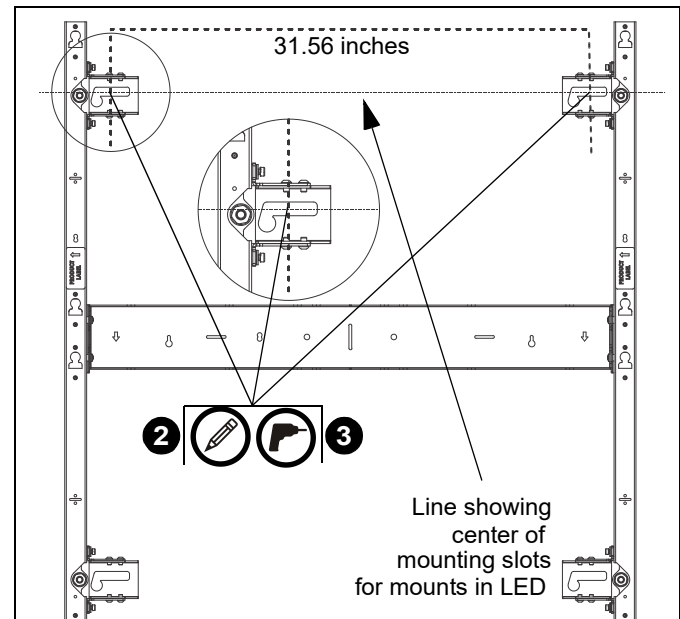
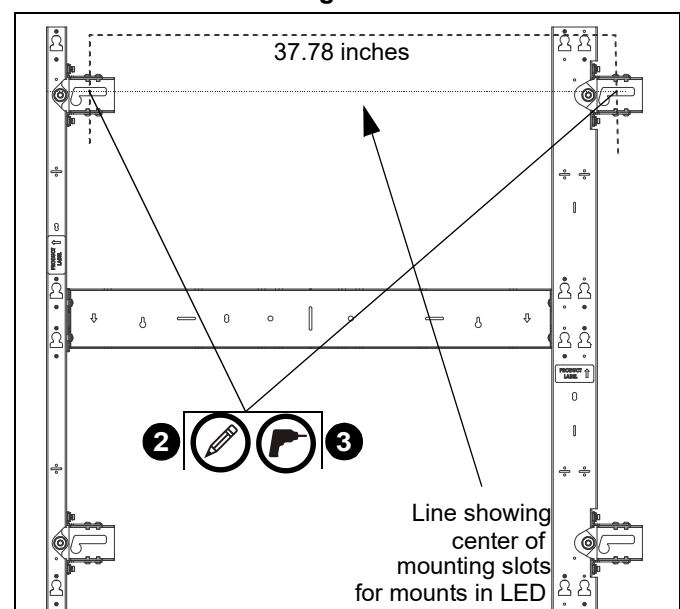

Figure 8
Figure 9
1. Hold furthest left wall mount against wall ensuring that mounting slot is lined up with center line marked on the wall in **Determining Installation Site** section. Double-check with a level. (See Figure 8) or (See Figure 9)
2. Mark mounting holes near top or mounting slots along the horizontal line. (See Figure 8) or (See Figure 9)
**NOTE:** The mounting holes are 31.56" apart on-center for left and right together or 37.78" for left and middle together. (See Figure 8) or (See Figure 9)
3. Drill two pilot holes (see Table 1 for size) at each location marked in Step 2 (See Figure 8) or (See Figure 9) and follow fastener information located in Table 1.